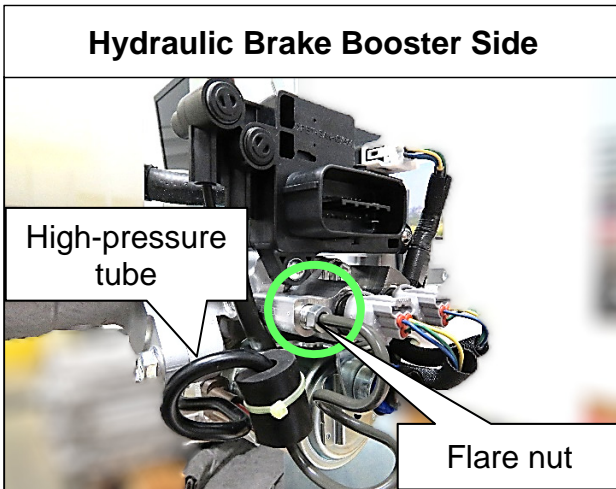
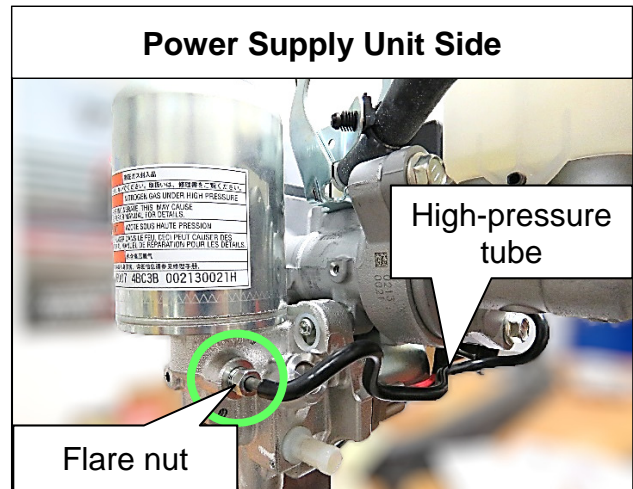

Figure 32
Figure 33
- Install and hand tighten the flare nut on the hydraulic brake booster side first (Figure 32), and then install and hand-tighten the flare nut on the power supply unit side (Figure 33).
27. Torque the flare nut on the hydraulic brake booster side first (Figure 32), and then torque the flare nut on the power supply unit side (Figure 33).